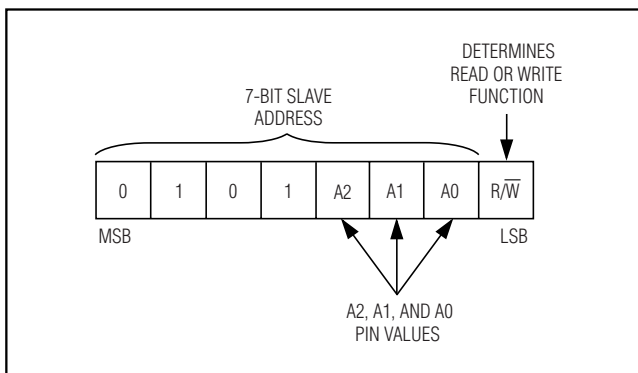

Figure 5. DS1882's Slave Address Byte
**Slave Address Byte:** Each slave on the I2C bus responds to a slave addressing byte sent immediately following a START condition. The slave address byte (Figure 5) contains the slave address in the most significant 7 bits and the R/W bit in the least significant bit.